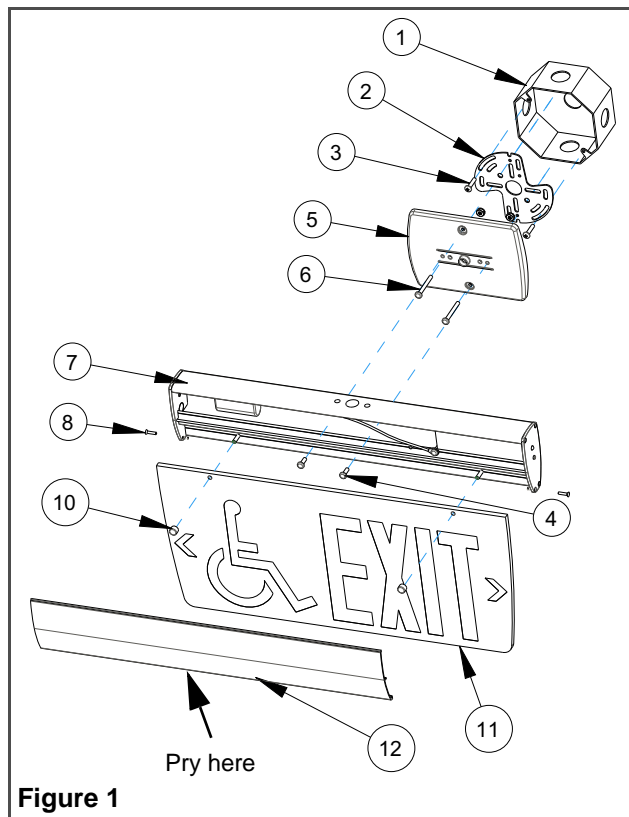

Figure 1
4. Unsnap cover (12) by using your fingers, lift the bottom of the cover and remove (if the cover is too difficult to open gently pry the cover using a flat-head screw-driver at the point indicated in fig.1).
Wall Mount (See Figure 1)